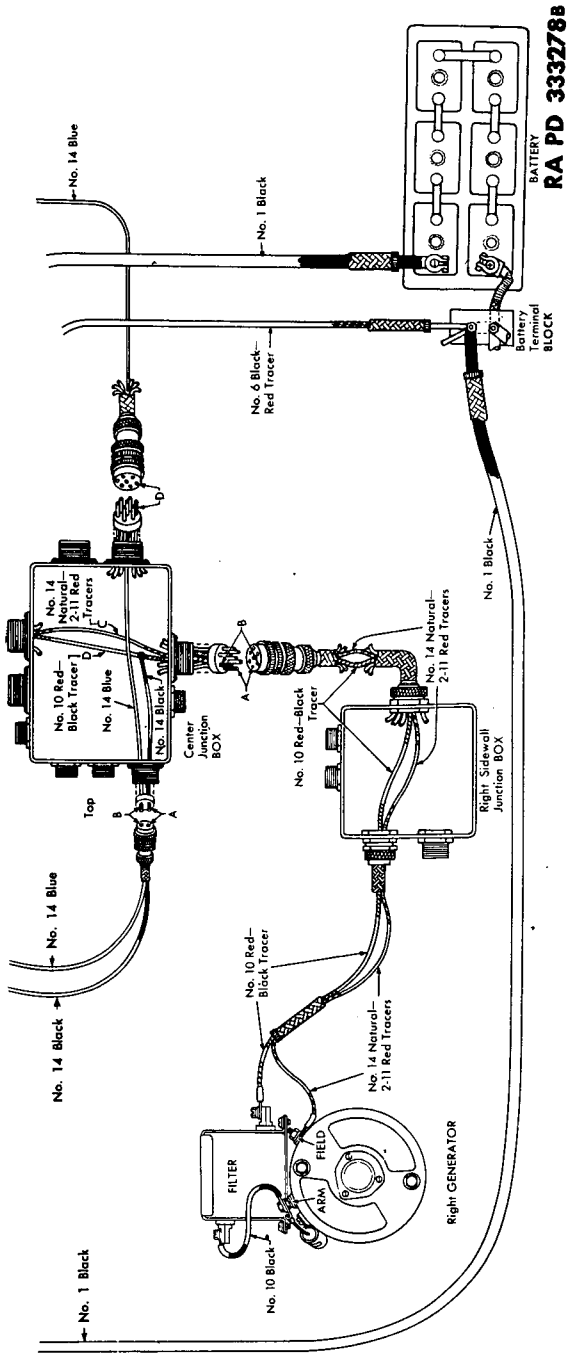

Figure 73 — Right-hand Engine Cranking Motor Circuit
c. **Install Right-hand Cranking Motor.** Working underneath vehicle, connect two conduit leads to back of solenoid on top of cranking motor (fig. 73). Connect right- and left-hand cranking motor cables at front of solenoid switch, and tighten lock washer and nut. Position cranking motor so drive gear meshes with flywheel teeth and tighten two screws and lock washers in place. Install floor plate.